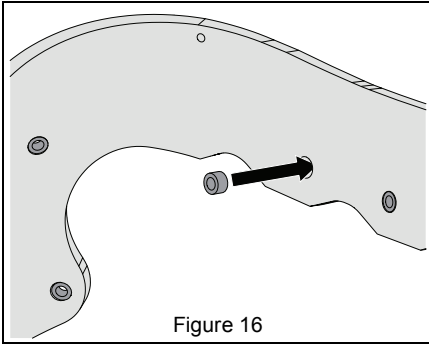

Figure 16
1. Install spacers into paddle holes. See Figure 16.